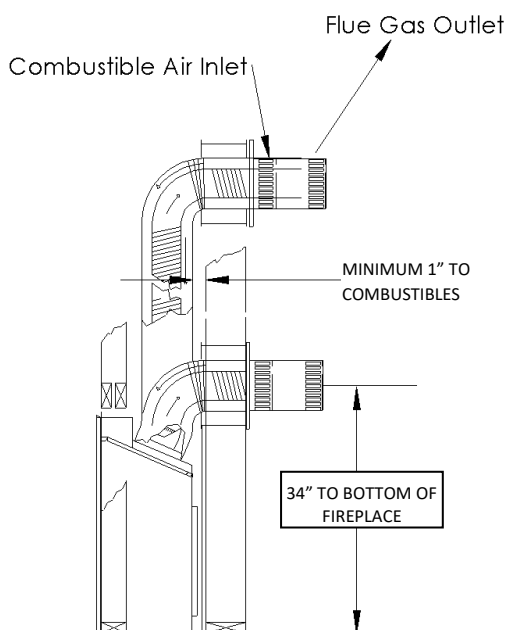

Figure 1
If the appliance is equipped with a hot air circulating fan, the speed of the fan can be controlled by the Proflame system. The fan speed can be adjusted through six (6) speeds. To activate this function use the Mode Key (fig.1) to index to the fan control icon (Fig. 13). Use the Up/Down Arrow Keys (Fig.1) to turn on, off or adjust the fan speed (fig. 14). A single "beep" will confirm reception of the command.
The auxiliary function controls the AUX power outlet by the dimmable light control. To activate this function use the Mode Key (fig. 1) to index to the AUX icon (fig. 15 & 16).
The intensity of the output can be adjusted through six (6) levels. Use the Up/Down Arrow Keys (Fig.1) adjust the output level (fig. 16). A single "beep" will confirm reception of the command.
Place the spring spaces provided approximately every two feet to stabilize 4" flex in the center of 7" flex. When forming bends place spring in bend or before and after. (See Fig. 1). Horizontal runs require support metal straps every 2 feet. In offset installation support straps should be used to stabilize pipe.
Expand 4" and 7" flex pipe to the point that the 7" protrudes approximately 2 to 3 inches past outer wall and the 4" flex protrudes approximately 2 to 3 inches past the 7" flex. (See Fig. 1). Attach the 4" pipe to the termination first and secure with sealant and screws then attach the 7" flex to the termination with caulking and screws. Termination may then be moved back to the outer wall and attached to home screwing into the framing. Silicone around termination to waterproof. If siding shield is going to be used attach this using same attaching hole as the top of termination after termination has been caulked for water proofing.
- To install wall thimble center over 11" x 11" (inch) framing from both sides of wall and secure. Route flex vent pipe through wall thimble (See Figure 1).
- Support horizontal pipes every two (2) feet (61 cm) with metal strap bands. Re-check fireplace to make sure it is levelled and properly positioned and secured.